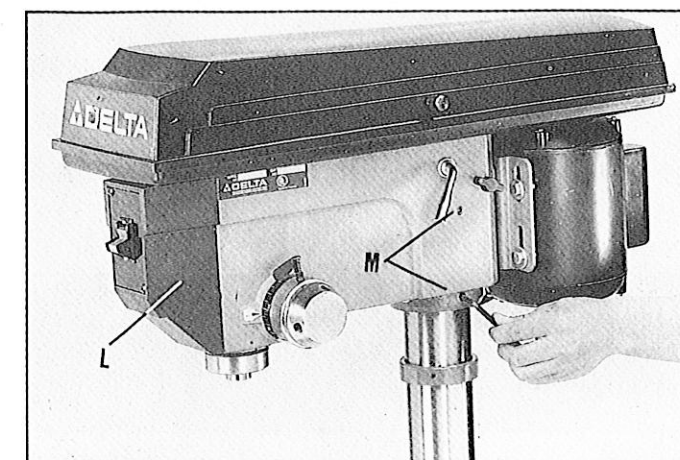

Fig 8
8. Place the drill press head (L) onto the column as far as it will go. Align the head and table to the drill press base and tighten the two head locking screws (M), as shown in Fig. 8.